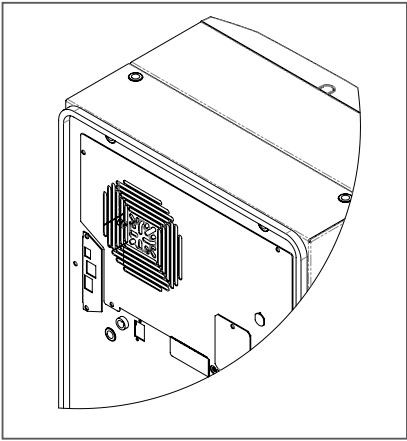

Figure 3
- 1. Using the mounting gasket kit provided with the unit, install gasket to the air conditioner, see Figure 3.